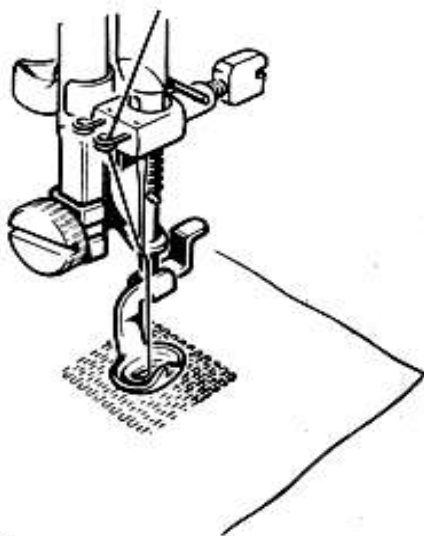

Fig. 40
*Presser foot*: darning foot (Fig. 40, special accessory upon request and against payment) The hole which is on the front of presser foot can be used to pass a reinforcement thread.